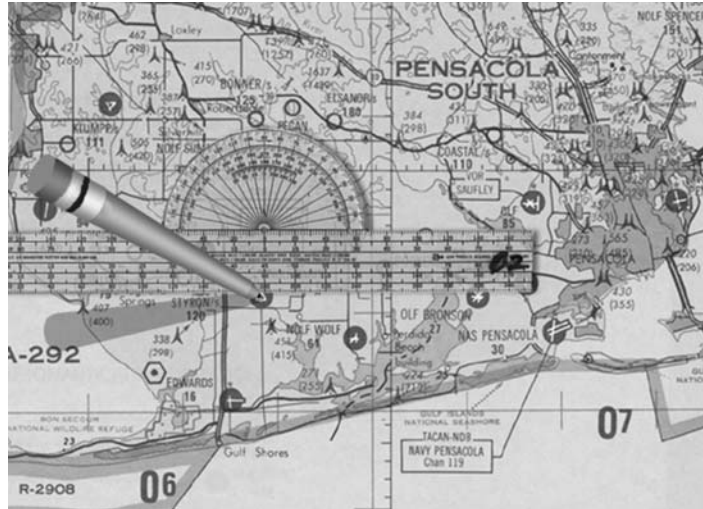

Figure 4.2-20a Plotting East/West Direction
3. Place the straightedge against the dividers and slide it until the grommet is over a meridian or parallel. (Figure 4.2-20a)